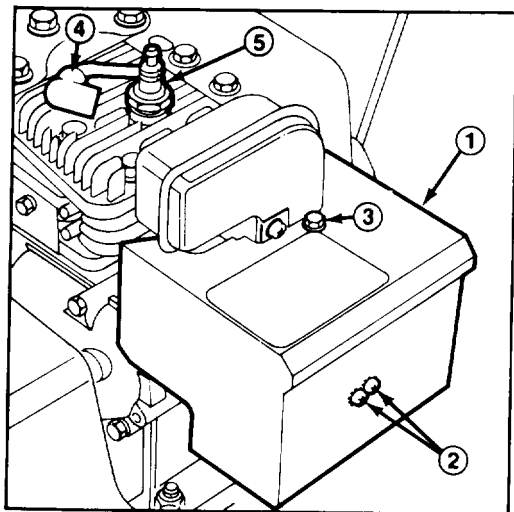

Figure 15
Note: If engine is operated when temperature is +40° F (4° C) or higher, remove carburetor heater box (Fig. 15). However, the heater box must be reinstalled when temperature falls below +40° F (4° C). To remove heater box:
- A. Remove phillips screws and hex head screw securing heater box in place. Pull choke knob off choke rod (Fig. 15).
1. Push high tension wire onto spark plug (Fig. 15).
To prevent accidental starting of the engine while performing maintenance, rotate ignition key to off and remove it from the switch. Next, pull high tension wire off spark plug (Fig. 15) and make sure wire does not accidentally touch the plug.
1. Pull high tension wire off spark plug and make sure wire does not contact plug accidentally (Fig. 15).